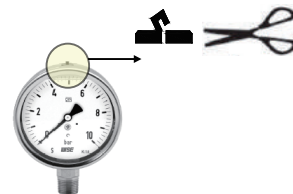

Figure 5
- 7) If installed outside, do not cut the oil filler cap and release pressure on a regular basis. Condensation may occur in rainy weather. If the oil filler cap has to be cut, do not cut completely but cut rather half way as in Figure 5 below.